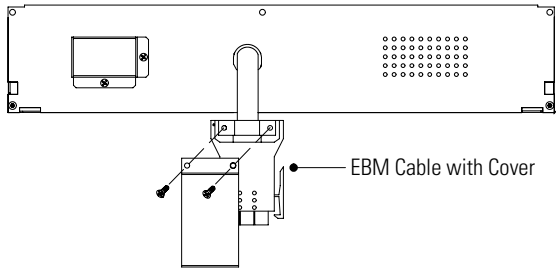

Figure 16. EBM Cable Cover (E/EH UPS Models Only)
- 5. Remove the cover from the EBM cable as shown in Figure 16.